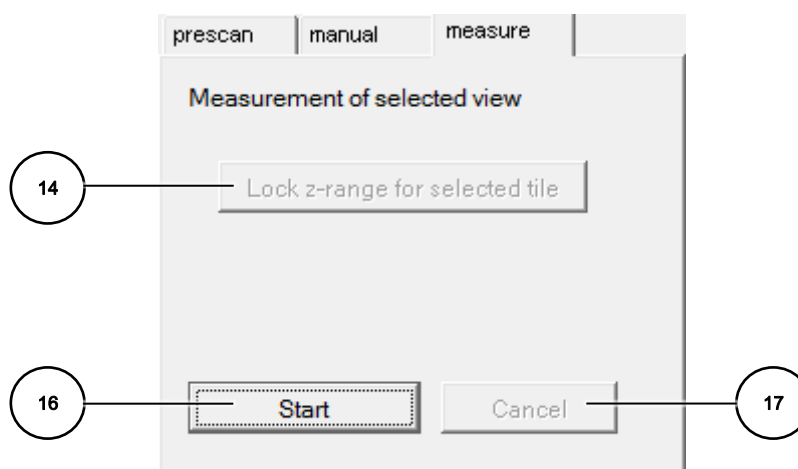

FIGURE 15: THE "MEASURE" TAB OF THE "STITCHING-MEASUREMENT" DIALOG
In case that the tiles are properly aligned and the size of the grid satisfies the requirements of your measurement task you can proceed with the actual stitching measurement. Change to the tab "measure" in the option field (3), shown in Figure 15, and click on the "Start" button to perform the measurement procedure. Using the information of the grid the software takes control over the motorized stage and the camera and executes the complete scan and data analysis procedure on each grid tile.